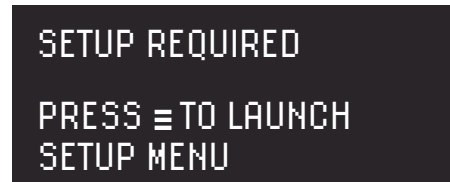

Fig:26
Pairing a wall console with the drive unit requires separate pairing steps for Bluetooth and RF-Link. These steps follow sequentially in the setup procedure (Fig:26 - Fig:37) and must both be completed for the operator to function normally.
2. Fig:26 shows the start screen of the pairing wizard. Press \equiv to begin and follow the instructions on screen up to Fig:29.
The RF Link connection steps follow on sequentially after completing the Bluetooth pairing steps shown in **Fig:26-Fig:31**.